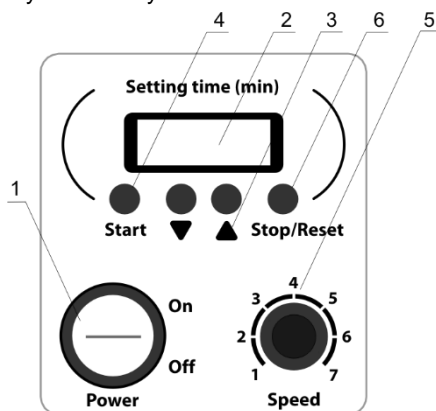

Fig. 1. Control panel
- 4.3. Switch on the **Power** switch (fig. 1/1). Display with timer lights up (fig. 1/2).
- 4.4. Using the ▼ and ▲ keys (fig. 1/3), set necessary working time. Use timer indication as a guide. The set time is displayed in hours and minutes (hh:mm).
- 4.5. Set the required rotation speed (recommended by the methodological prescriptions) using the **Speed** knob (fig. 1/5).
- 4.6. Press the **Start** key (fig. 1/4). The platform starts rotating and the timer starts counting the set time interval. Time interval less than 1 hour is displayed in minutes and seconds (mm:ss), more than 1 hour – in hours and minutes (hh:mm).
- 4.9. The mini-rotator can be stopped before the set time expires if necessary by pressing the **Stop/Reset** key (fig. 1/6). For 20 s timer indicator will show the time rotator has worked, after that - the set time interval.